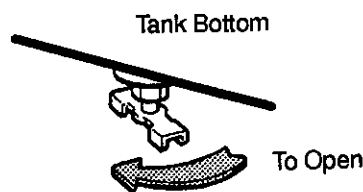

Figure 5. Tank Petcock
5. Open the petcock on the bottom of the tank. See Figure 5.